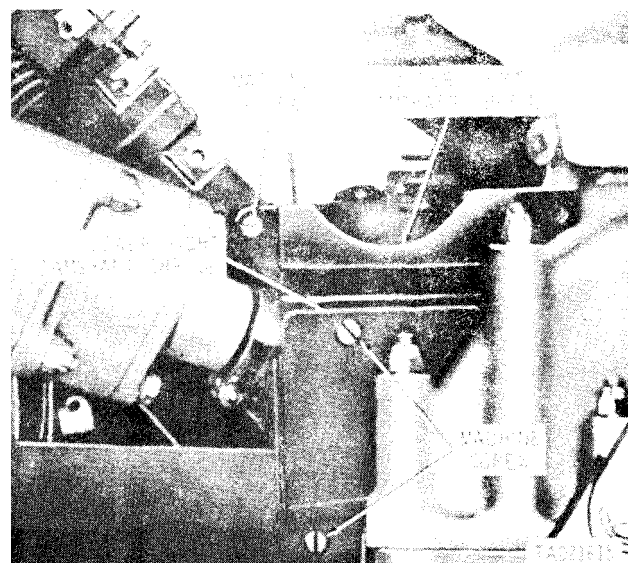

Figure 3-57. Removing or installing camshaft drive shrouds - fight side.
a. Remove two machine screws (fig. 3-57) and remove lower right camshaft shroud. Remove machine screw and remove upper right camshaft shroud. Remove left shrouds in the same manner.